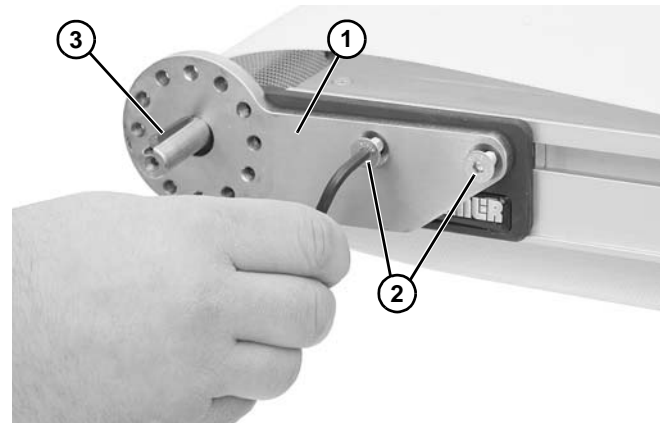

Figure 4
4. Attach mounting plate (**Figure 4**, item 1) with screws (**Figure 4**, item 2).
5. Install key (**Figure 4**, item 3).